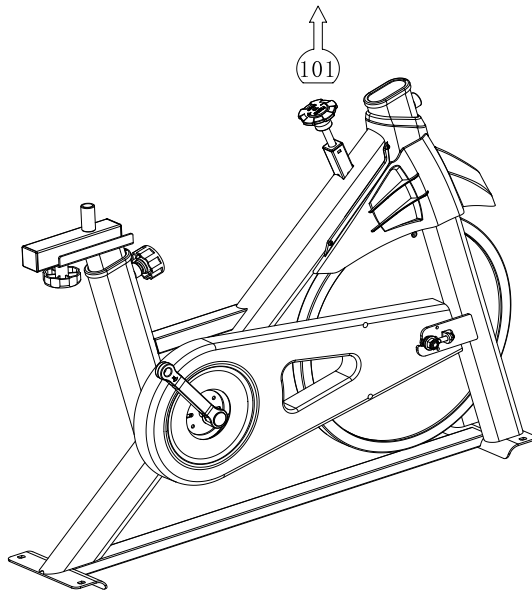

Figure 1
1. As shown in Figure 1, Take the main frame out of the box and stood upright on the floor;